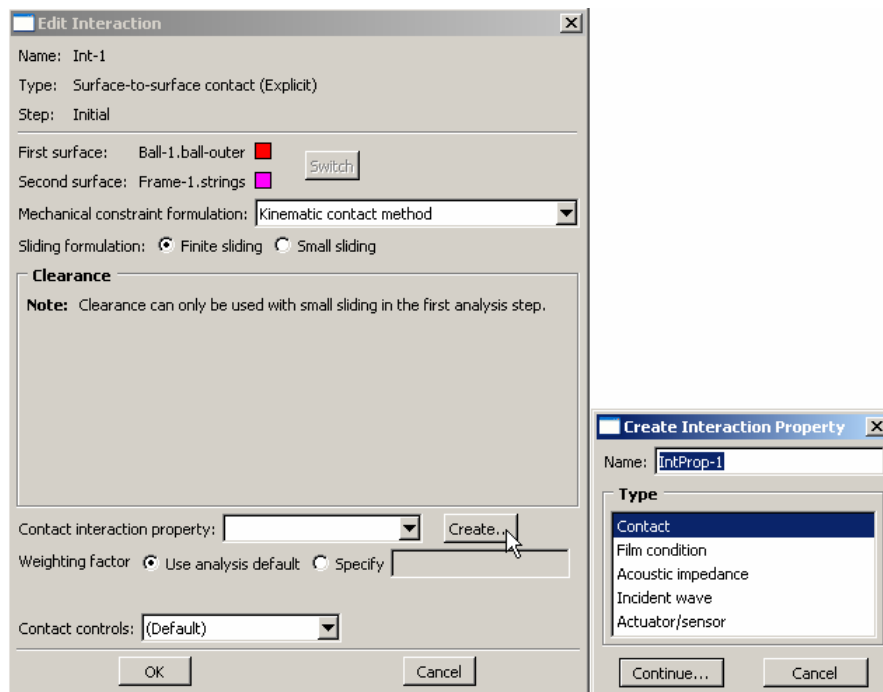

Figure W-24
- a. Press **Create** next to **Contact interaction property** to create friction interface (Figure W-24).